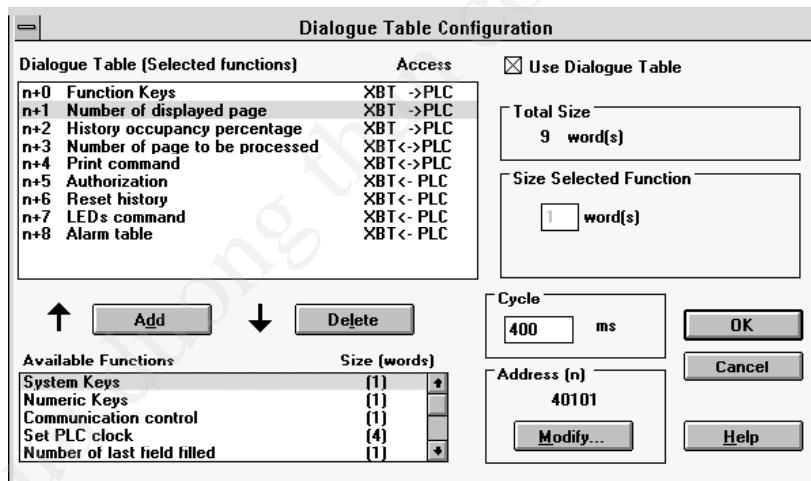

Figure 21: Configuring the Dialogue Table
- a. From the Configuration menu header, select the **Dialogue Table** option. The *Dialogue Table Configuration* window appears (see Figure 21, following):